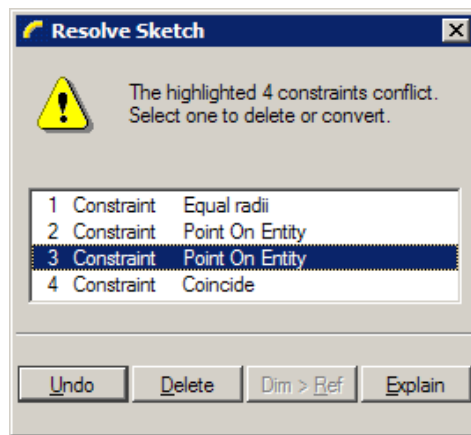

Figure 2-34 The **Resolve Sketch** dialog box
5. Use the CTRL+middle mouse button to zoom in and now select the top arc and the bottom arc to apply the equal radius constraint. If the constraint is already applied, the **Resolve Sketch** dialog box is displayed, as shown in Figure 2-34.